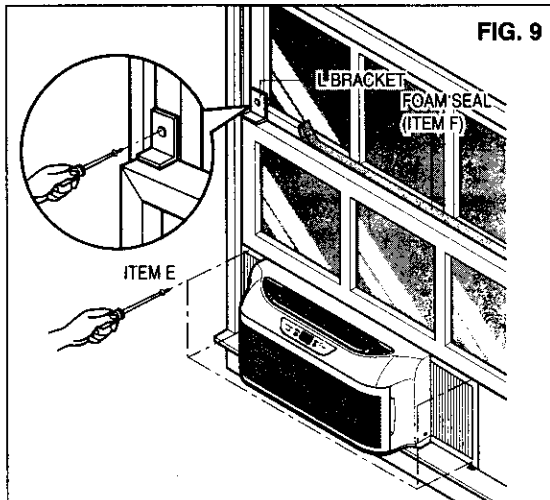

FIG. 9
Expand the curtain frames and secure them using 5 screws (ITEM E) as shown in FIG. 9. When curtain frame opens or closes, you may feel a slight resistance. This is normal.
- Cut the foam seal (ITEM F) to the window width. Stuff the foam seal between the glass and the window to prevent air and insects from getting into the room, as shown in FIG.9.